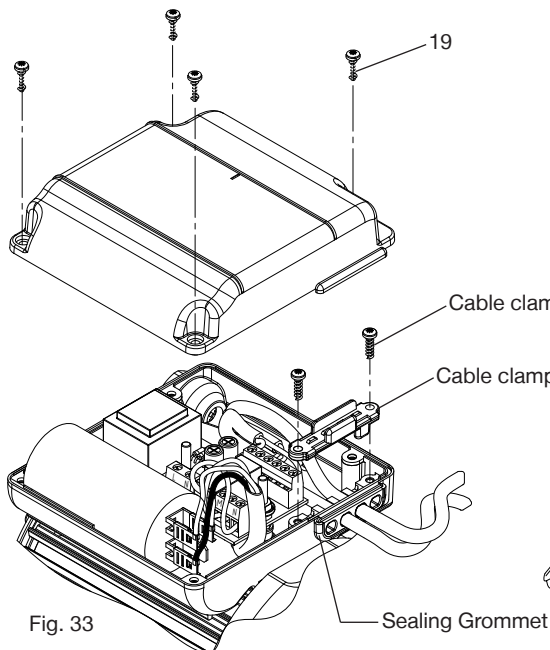

Fig. 33
- Remove four screws (item 19) and carefully remove terminal box lid (Fig. 33).
- **IMPORTANT:** Take note of cable clamp position **before removal** as reassembly in the original factory orientation is essential - Remove two screws and cable clamp, this allows the pressure switch cables to be removed from the terminal box (Fig. 33).
- Remove the pressure switch cable from the terminal box by gently sliding the cable out through the sealing grommet, ensuring no damage to the seal area (Fig. 33).
- Pressure switch (item 22) to be tightened to a torque of 7-8 Nm.
- Secure two cable clamp screws and four terminal box lid screws, to a torque of 0.8 Nm (Fig. 33).